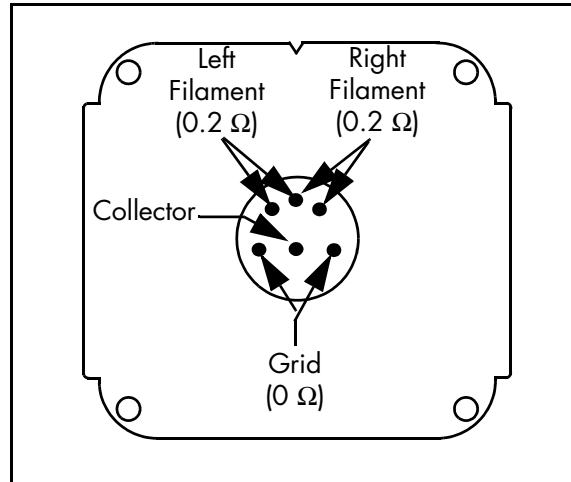

Figure 4-2 Micro-Ion Gauge Pin Identification.
6. Use a digital multimeter to measure the resistance of the left and right filament pins as illustrated in Figure 4-2 on page 33. The reading should be approximately 0.2 Ω .
7. Measure the resistance of filament pins to any other pin or gauge case as shown in Figure 4-2. The reading should be infinity.
8. Measure the resistance between Grid pins as shown in Figure 4-2. The reading should be approximately 0 Ω.
9. Measure the resistance of Grid pins to any other pin or gauge case as shown in Figure 4-2. The reading should be infinity.
10. Measure the resistance of Collector pin to any other pin or gauge case as shown in Figure 4-2. The reading should be infinity.